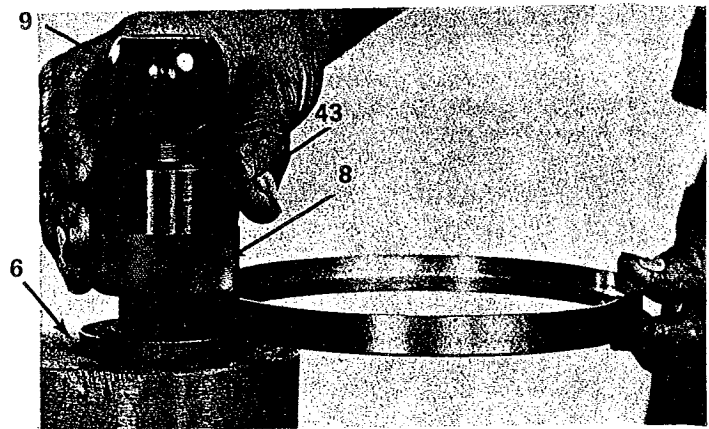

Fig. 8 Setting Length of Cut
7. Loosen the socket cap screw (42) on the depth set collar and back-off the depth set collar (8) counterclockwise. Place the bushing to be used between the depth set collar and the sprocket and adjust depth set collar down to bushing, tighten socket cap screw. (See Fig. 8).